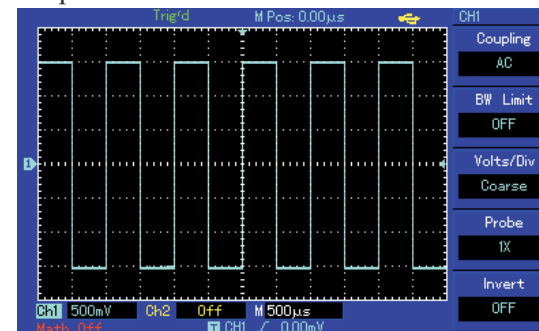

Figure 1-7
③. Connect probe and grounding clip to corresponding connection ends then press [AUTO] button. As shown in Figure 1-7, square wave (1kHz, about 3V and peak value) can be displayed within several seconds. It has to inspect CH2 by the same method then press [OFF] function button so as to power off CH1. It has to press [CH2] function button to power on CH2 and repeat the second and third steps.